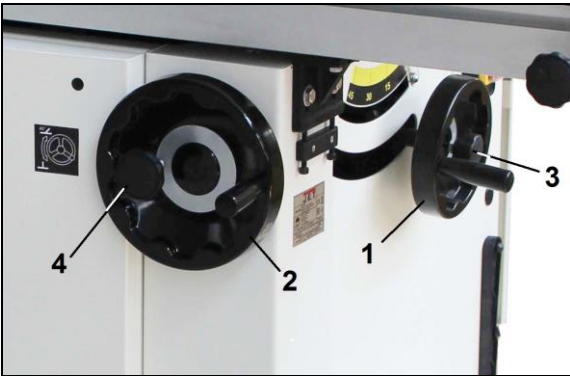

Fig 11
Fitting the elevation handwheel(1, Fig 11) and angle handwheel (2) onto the elevation and angle shaft.